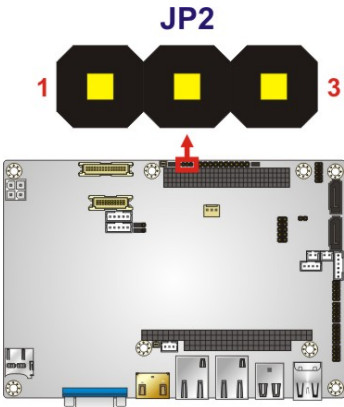

Figure 4-8: PC/104-Plus VIO Voltage Selection Jumper Location
- Jumper Location:See Figure 4-8